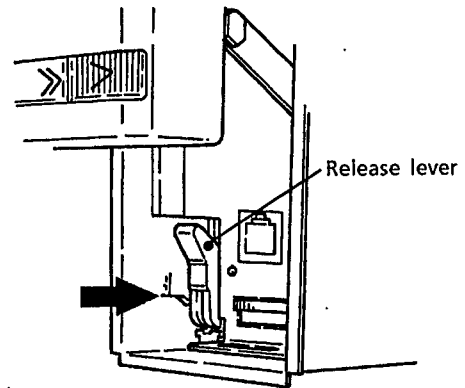

Figure 3.10 Installing the Internal Unit 2
- ② Firmly push the release lever upwards (see Figure 3.10).
- ③ Swing down the front panel (see Section 3.2 “Swinging the Front Panel Up and Down”).